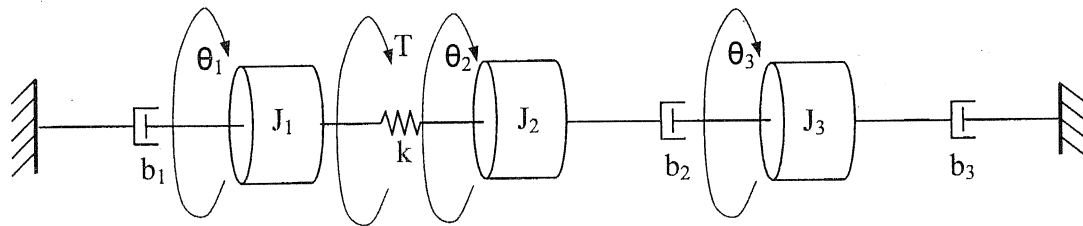

Figure 04
- (6.2) Obtain the governing equations for the rotational mechanical system given in figure 04 below.